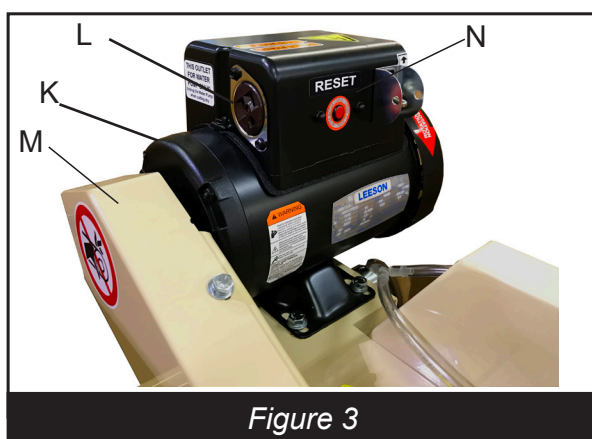

Figure 3
- If the thermal overload relay is triggered; allow for the motor to cool before compressing the thermal "RESET" button. (Item N, Figure 3)